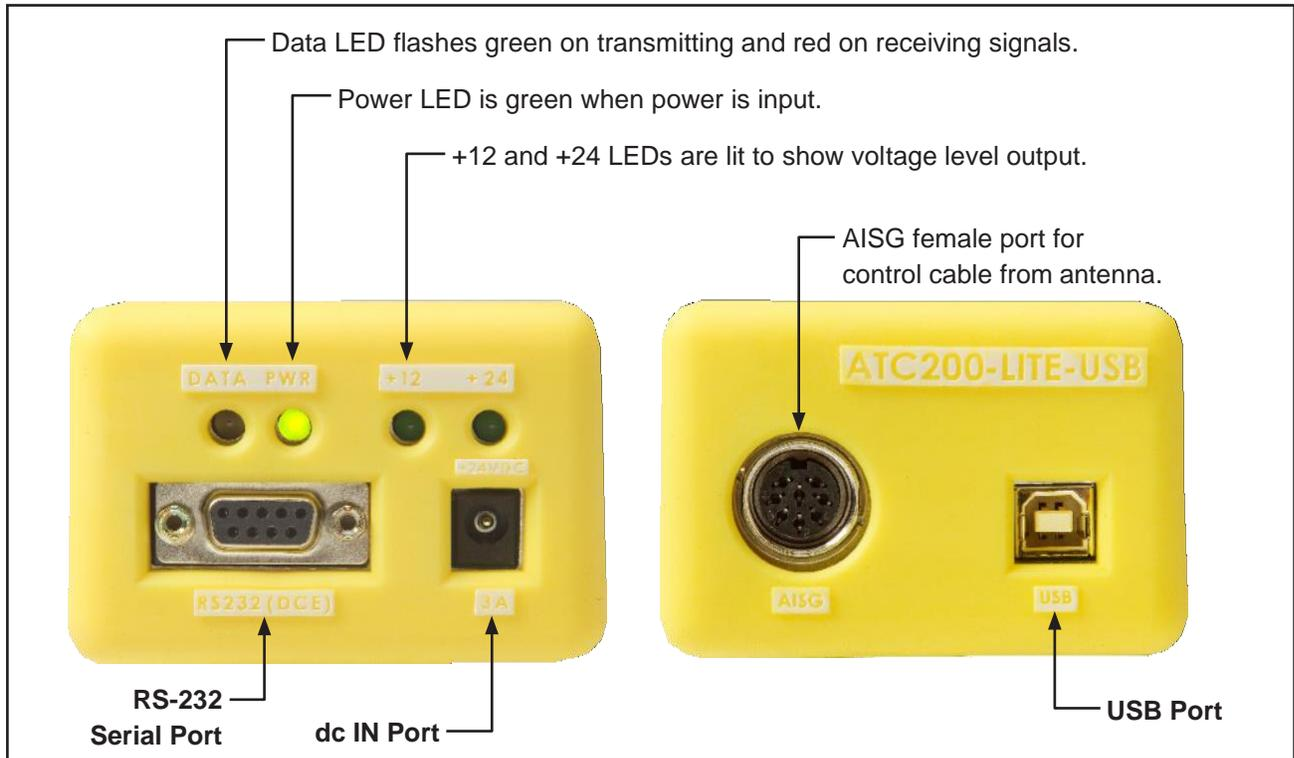

Figure 2-3. ATC200-LITE-USB Controller End Panels.
Connect the supplied 24 Vdc power converter to the dc IN port on the controller (Figure 2-3).
- Connect the supplied USB cable between the controller and the PC. See Figure 2-3 for port connections on the controller.